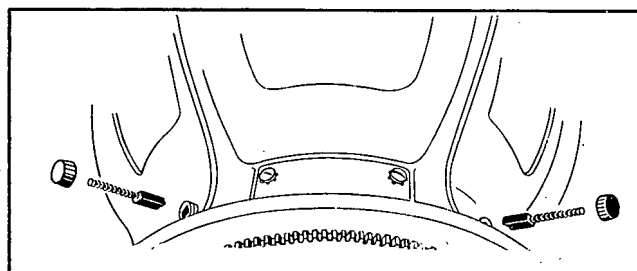

Figure 7-46. Replacing Yoke Coil Brushes
the molded caps and remove the brushes. Replace with new brushes and screw on the caps. See Fig. 7-46.
29. Take off the brush holder caps and remove the brushes. See Fig. 7-46.